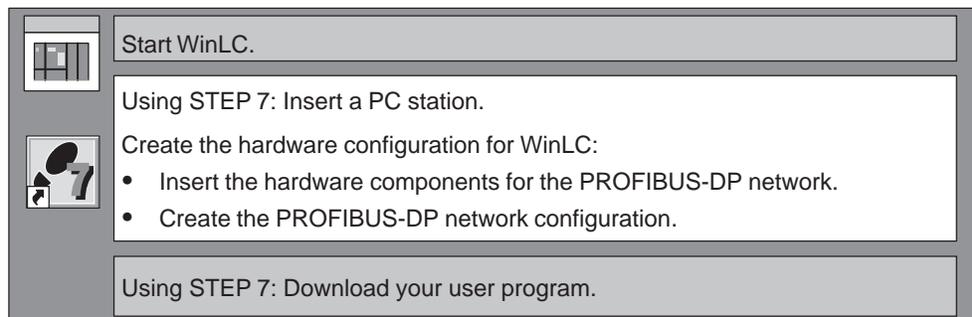

Figure 4-3 Using STEP 7 to Configure the WinLC
The hardware configuration defines the network addresses and the distributed I/O (DP) for the WinLC controller. It also defines the default operating parameters, such as the minimum scan cycle time. As shown in Figure 4-3, you must use the STEP 7 programming software to configure WinLC: